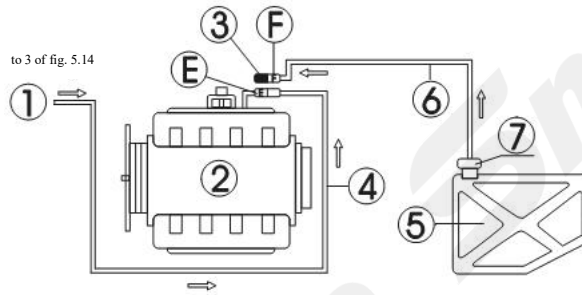

Figure 5.15 Line Connection 2
- 1) Disconnect the fuel supply hoses (E, F) of the engine fuel system (when disconnecting the fuel line connectors, cover them with towels), and then choose a suitable connector, connect it to the E end and reconnect the fuel outlet hose of the device. Hang the fuel return hose. See Figure 5.15.
- 2) Block the other end of the disconnected end (F) with a stopper (for fuel pump with fuel return function only) or remove the fuse of fuel pump or disconnect the power cable of engine fuel pump.